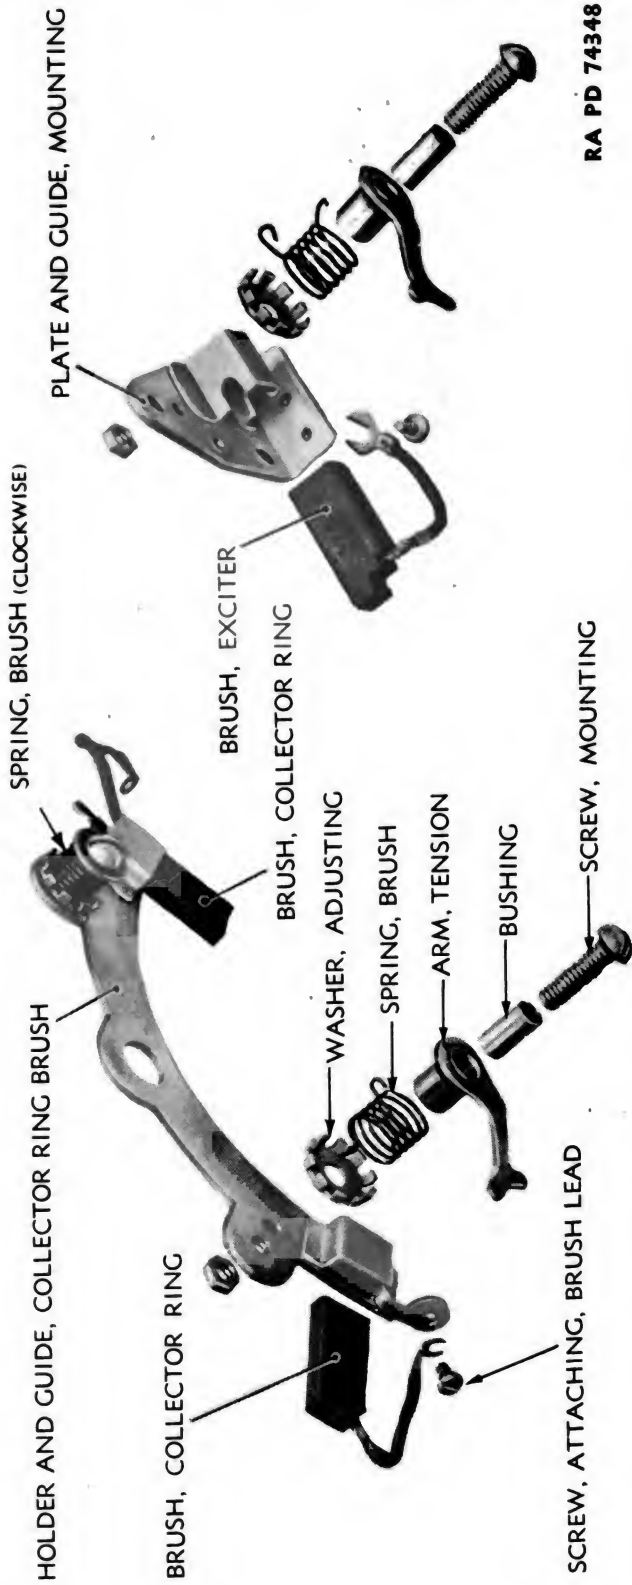

Figure 194 — Brush-holder Assembly (H. B. Co. Unit) — Exploded View
- (1) Install coupling. Follow procedure given in subparagraph a (1), (2), and (3), above.
- (2) Assemble mounting screw and bushing through tension arm sleeve. Place spring on sleeve, and set spring adjusting washer over spring. Carry screw through brush holder and guide, or mounting plate and guide, and attach nut. Repeat this procedure for each brush holder (fig. 194).